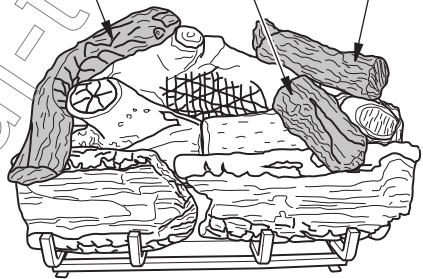

Figure 22 - Installing Logs #6, #7 & #8
4. Place logs #6, #7 and #8 as shown in Figure 22.